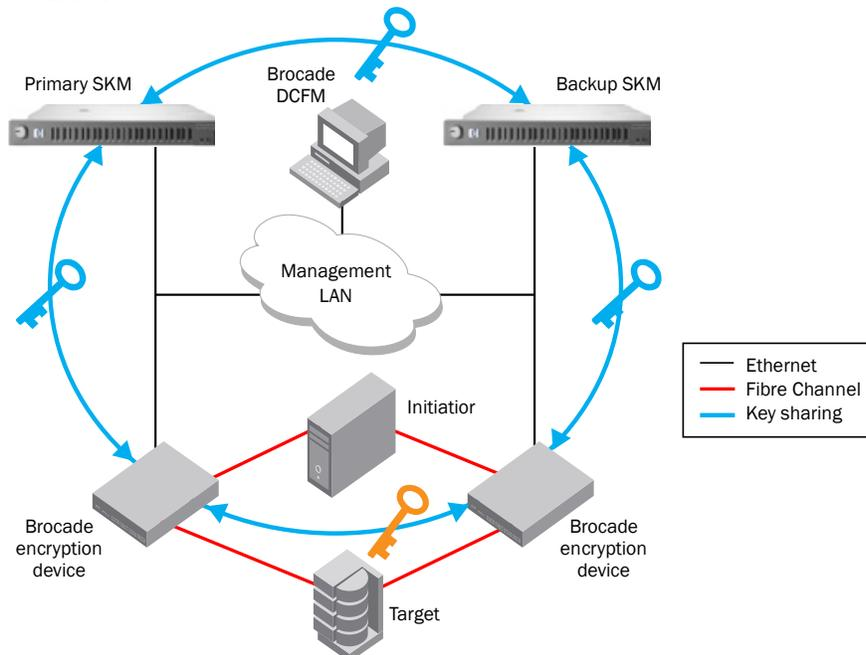

Figure 1. Components of the Brocade-HP solution
A quick overview of the equipment in the solution is helpful in understanding the context of the discussion. Brocade recommends deploying encryption with redundant encryption devices and redundant HP SKM nodes. As shown in Figure 1, the components of this scenario include:
- A Fibre Channel (FC) fabric, which in this example consists of two Brocade Encryption Switches
- A separate cluster LAN of Gigabit Ethernet (GbE) links between the encryption devices for exchanging DEKs (not shown in Figure 1)
Figure 1 shows how the DEKs are exchanged between devices in the encryption solution. The DEK is first generated by the Brocade encryption device and sent to the primary SKM appliance. The encryption device then synchronizes DEKs with the other encryption devices in the fabric through the cluster LAN. The SKM nodes are also synchronized between themselves to ensure access to keys if one fails. These redundant key exchanges are crucial to ensuring that the data can be encrypted or decrypted without a single point of failure.